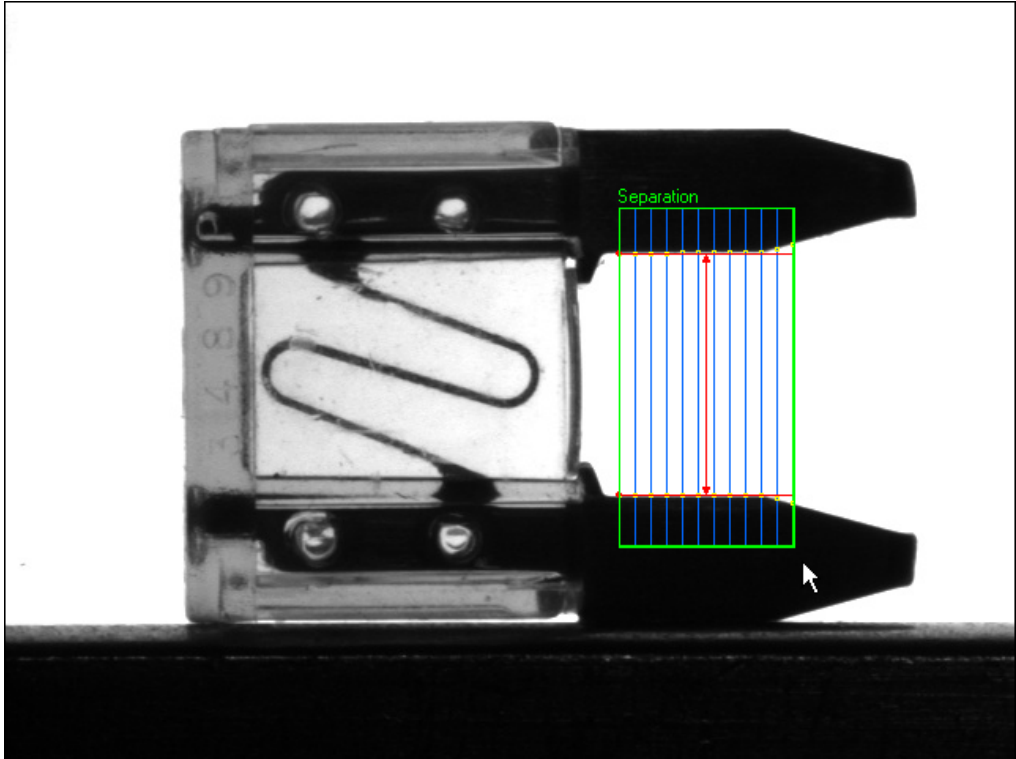

Figure 4-2. Measuring the Distance Between Two Edges
5. Draw a region of interest across the blade connectors, as shown in Figure 4-2.